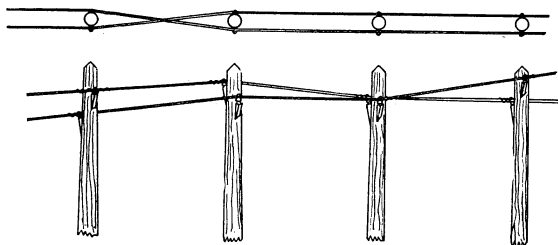

Fig. 16.
**TRANSPPOSITIONS.**—Metallic circuits on brackets should be transposed, as indicated for the wires a and b, in Fig. 16, at about every thirtieth pole, to prevent cross talk between circuits and interferences from foreign currents.